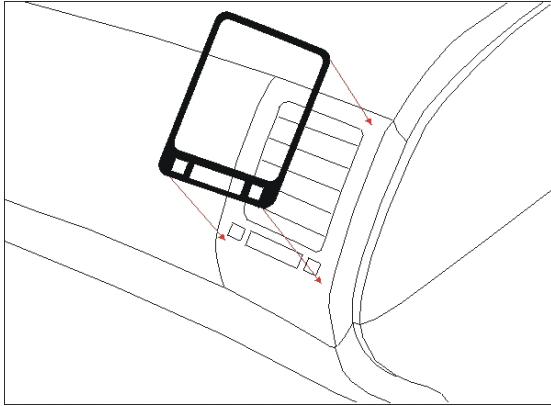

Fig. 9-1
- (b) Align part uniformly to the outer edge of the factory vents. (Fig. 9-1)